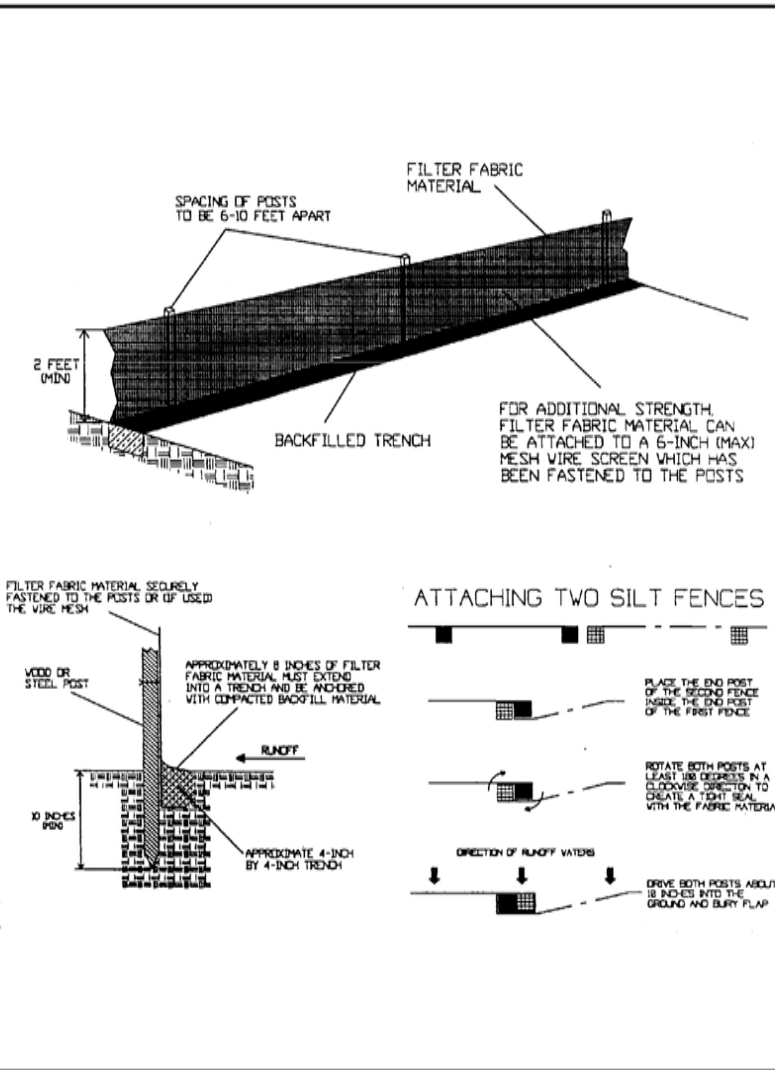

Figure 4.4b. Installing a Filter Fabric Silt Fence
8. When attaching 2 silt fences together, place the end post of the second fence inside the end post of the first fence. Rotate both posts at least 180 degrees in a clockwise direction to create a tight seal with the filter fabric. Drive both posts into the ground and bury the flap (see Figure 4.4b).